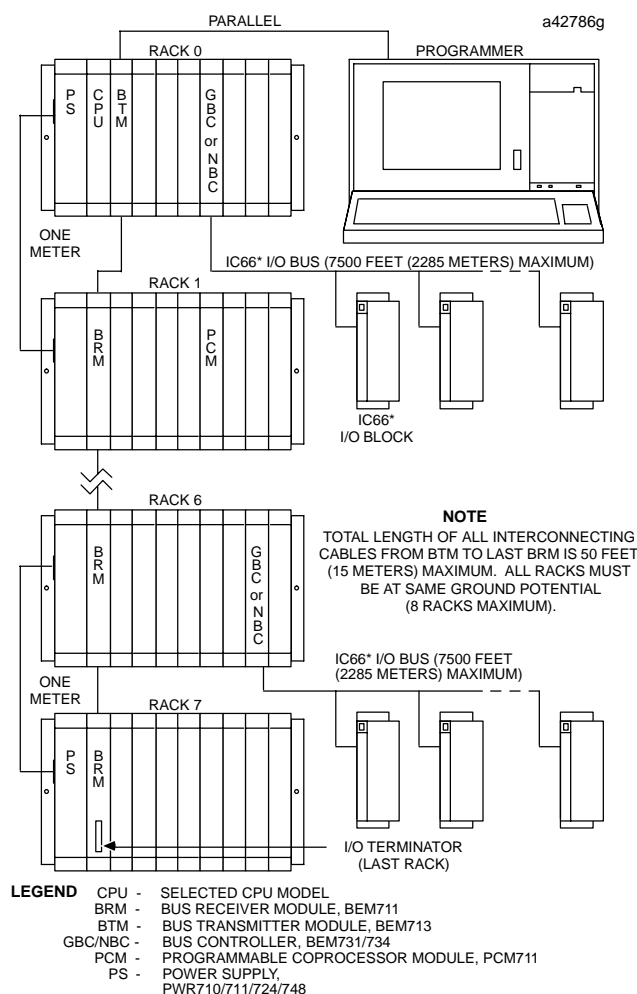

Figure 1. Typical Programmable Controller System Configuration
- Install the CPM 915 module in slot 1 of rack 0 (see Figure 1).
For a parallel interface (MS-DOS based programmer only) the programmer is connected to the top port on the Bus Transmitter Module (IC697BEM713) as shown in Figure 1. Consult Reference 1 for a description of programming functions.